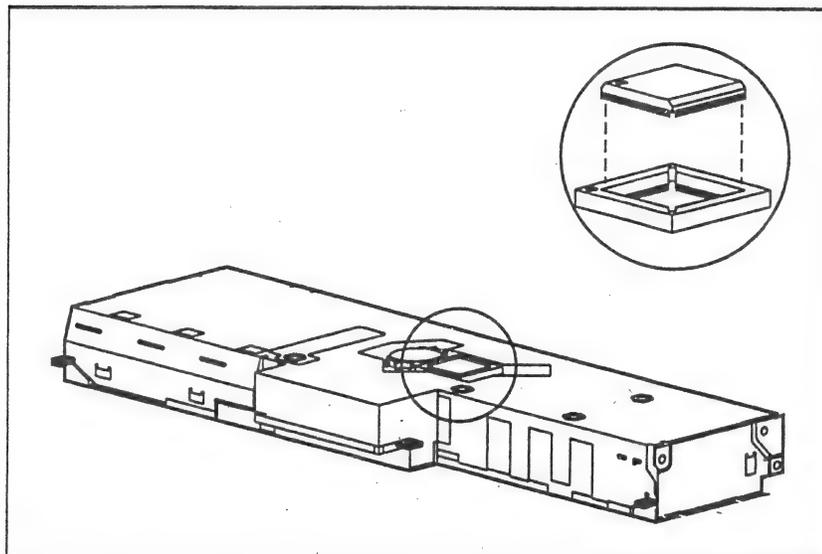

Figure 2-52. Aligning the 80387SX or 387SL Coprocessors
1. Position the coprocessor and the socket so that the beveled or notched edges are properly aligned (Figure 2-52).